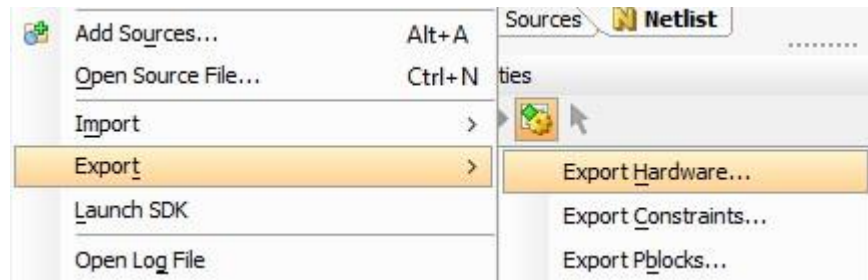

Figure 22: Export Hardware menu option.
2. On the Menu Bar, select File → Export → Export Hardware (Figure 22).